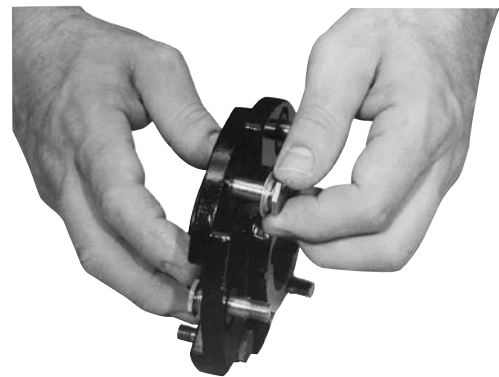

Figure 8
Step 3 Insert (3) of the compressed drive pins through the armature hub. The threaded ends of the pins must come through on the side of the hub with grooves around the holes.
Step 4 Insert the remaining (3) drive pins from the opposite side of the armature hub through the remaining (3) holes.
Note: Apply Grade "AA" Loctite Sealant on threads of all (6) drive pins. (Figure 8)